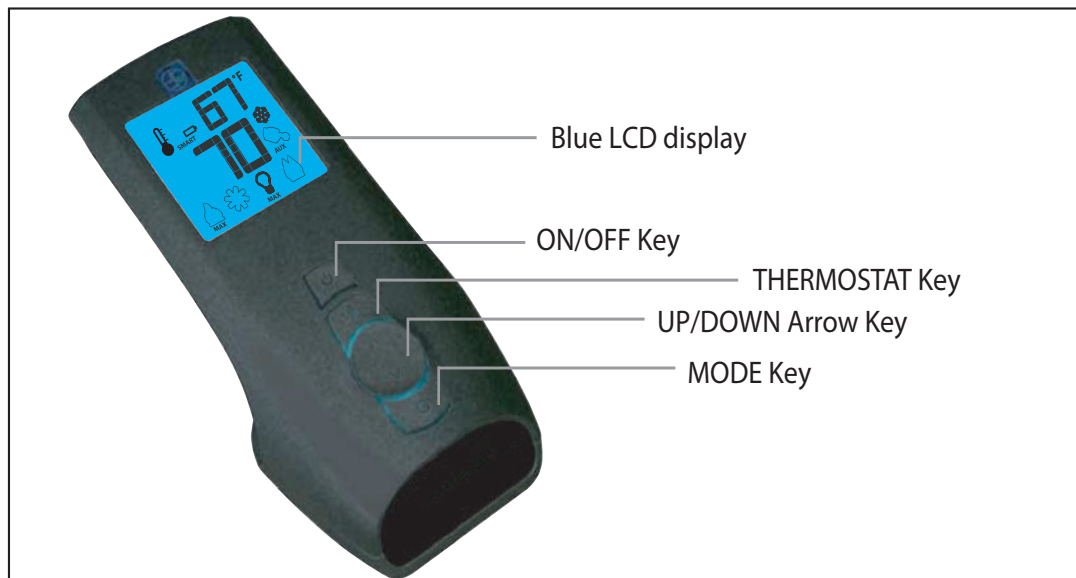
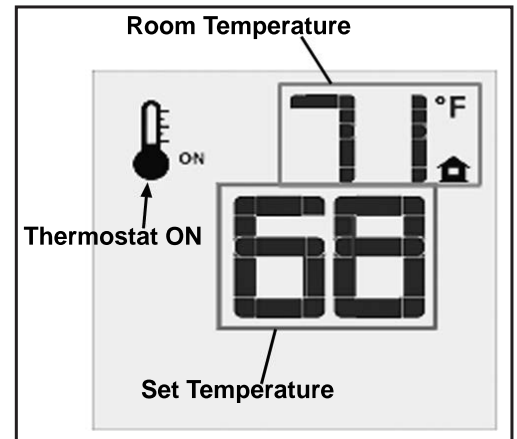
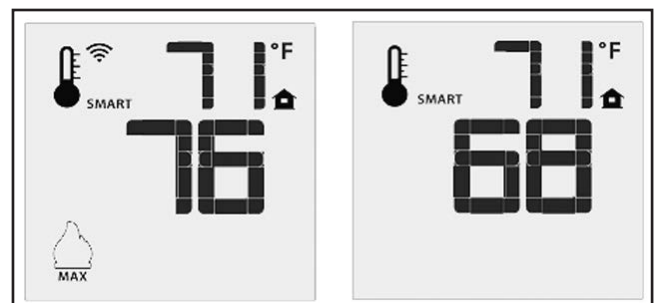

Figure 5: Proflame 2 Transmitter.
Figure 9: Remote Control Displays Set Temperature.
Figure 10: Remote Control's Smart Flame Function.
The Proflame 2 Transmitter is a remote control with a blue backlit LCD display. It uses a streamline design with a simple button layout and informative LCD readout (Figure 5). The Transmitter is powered by three (3) AAA type batteries. A Mode Key is provided to Index between the features and a Thermostat Key is used to turn on/off or index through Thermostat functions (Figure 5 & 6).
Press the ON/OFF Key on the Transmitter. The Transmitter LCD display will only show the room temperature and Icon (see Figure 9). A single “beep” from the IFC confirms reception of the command and both the pilot light (if the unit is not set to continuous pilot) and main burner will turn off.
The Remote Control can operate as a room thermostat. The thermostat can be set to a desired temperature to control the comfort level in a room. To activate this function, press the Thermostat Key (see Figure 5). The LCD display on the Transmitter will change to show that the room thermostat is “ON” and the set temperature is now displayed (see Figure 9). To adjust the set temperature, press the Up or Down Arrow Keys until the desired set temperature is displayed on the LCD screen of the Transmitter.
The Smart Thermostat function adjusts the flame height in accordance to the difference between the set point temperature and the actual room temperatures. As the room temperature gets closer to the set point the Smart Function will modulate the flame down. To activate this function, press the Thermostat Key (Figure 5) until the word “SMART” appears to the right of the temperature bulb graphic (Figure 10). To adjust the set temperature, press the Up or Down Arrow Keys until the desired set temperature is displayed on the LCD screen of the Transmitter.
The E30 comes with a convection fan that can be controlled with the Transmitter. The fan speed can be adjusted through six (6) speeds. To control the fan press the MODE key (Figure 5) to index to the fan control icon (Figure 12). Use the UP/DOWN arrow keys to turn on, off, or adjust the fan speed (Figure 12). A single beep from the IFC will confirm the command has been received